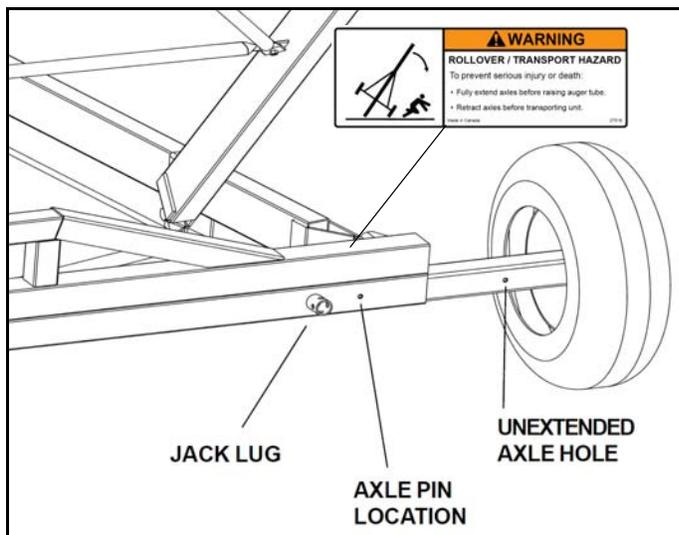

Figure 4.4
14. Using the jack supplied, insert it into one of the jack lugs located on one end of the axle (Figure 4.4). See Figure A for jacking point. Jack must be secured to jack lug using pin (attached to jack).
16. Remove the axle pin from the axle and slide the axle outwards 16” until the second set of holes line up (Figure 4.4). Reinsert the pin and secure with snap pin. Lower the jack.